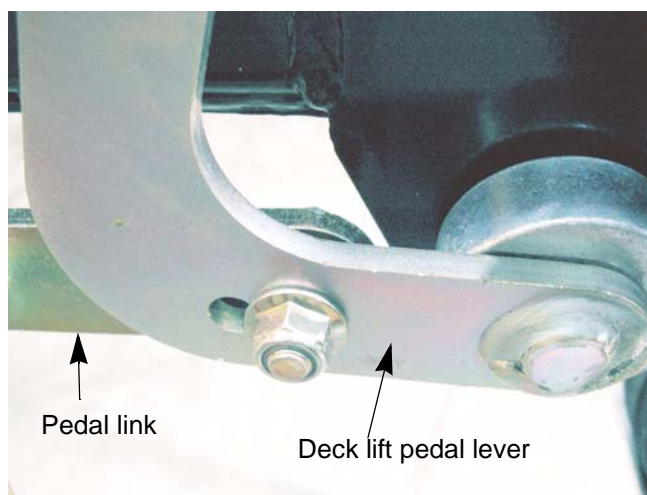

Figure 8.34
2. Disconnect the pedal link from the deck lift pedal lever using a 15/16" wrench and a 9/16" wrench. See Figure 8.34.